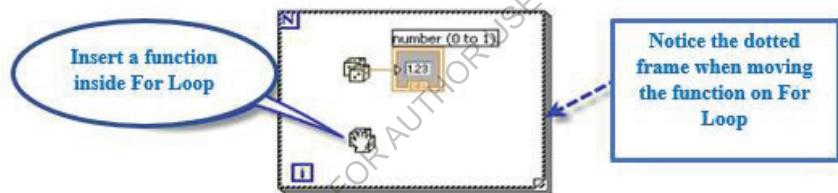

Figure 2.113: Insert a Function Inside For-Loop
- Any function, SubVI, or any Structure can be inserted into For Loop, as shown in figure 2.113.